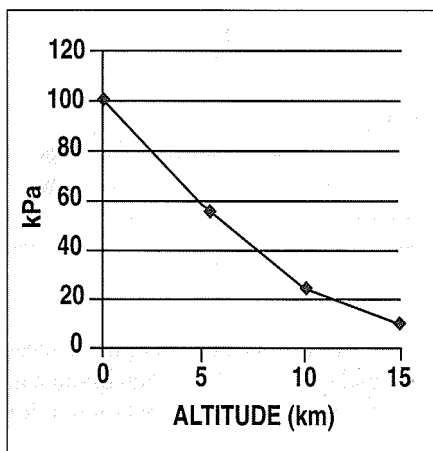

Figure 6. The compressibility of gases is illustrated by nonlinear atmosphere pressure as a function of altitude.
**Gases.** Gases differ from liquids in two respects: they are very compressible, and they completely fill any closed vessel in which they are placed. The nonlinear air pressure variation with altitude shown in Figure 6 (page 32) is an example of the effect of the compressibility of gases.